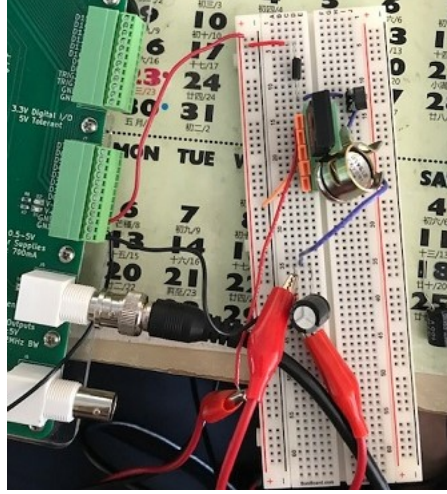

Figure 7: Differentially measuring V_{out} over R_L on the circuit
- Eventually, I got a boost, but at around 3 V, when in the lab, we were told the boost should be around 7 V. I figured this out in **TS4**, where I first switched my one BNC cable measurement out for two BNC cables connected to the breakout board's Scope 1+ and Scope 1-. Then, I grounded the MOSFET's source terminal. This fixed measurement can be seen performed in Figure 7